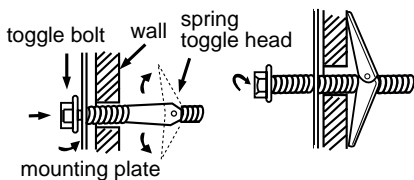

Figure 27
**NOTE:** Be sure to leave at least one wall-thickness of space between the head of the toggle bolt and the spring toggle head so that the spring toggle can open on the inside of the wall, as shown in Figure 27. You may have to pull out slightly on the bracket to put tension on the toggles.